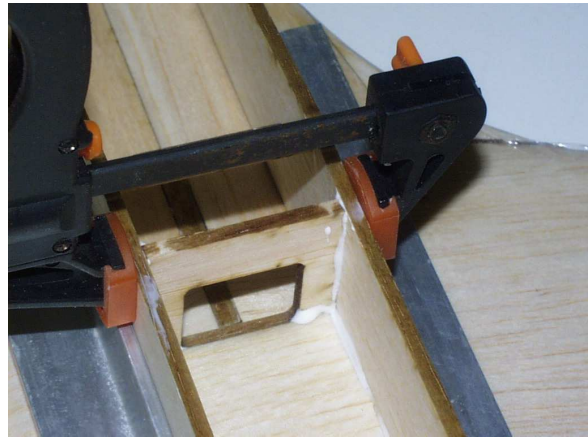

Figure 4.6: F1 glued in
- Glue in F1 against at the end of the reinforcement plates (Figure 4.6)